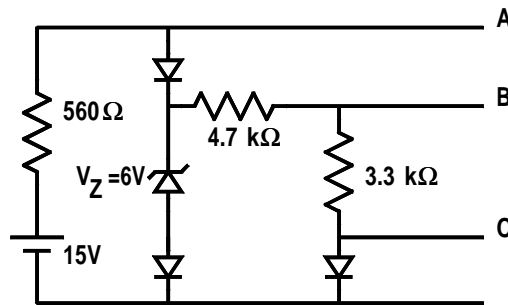

Figure 29.6: Problem 29.1.
- 29.1 Calculate the voltages at points A, B and C in the circuit shown in Figure 29.6.